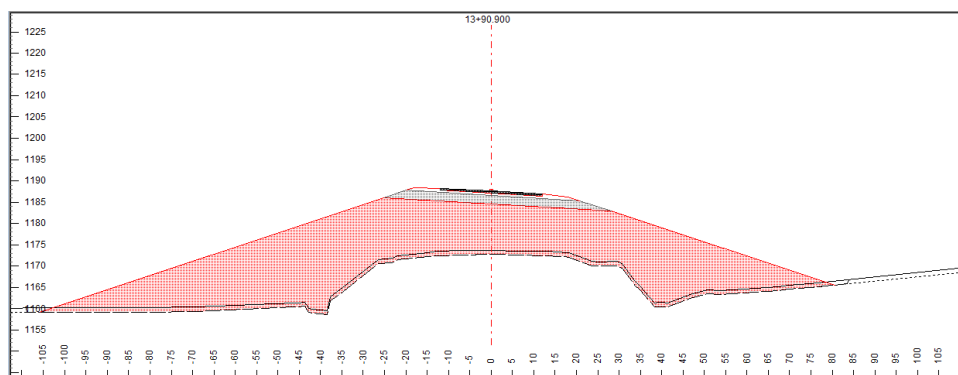

Figure 22-2: Desired Culvert Location
4. Your mouse cursor will change to the pencil with question mark . Click near the culvert to create a new report point. Move the red cross until it is over the culvert and click a second time to anchor the new point. Your cross section window will update to show the new location (Figure 22-2).